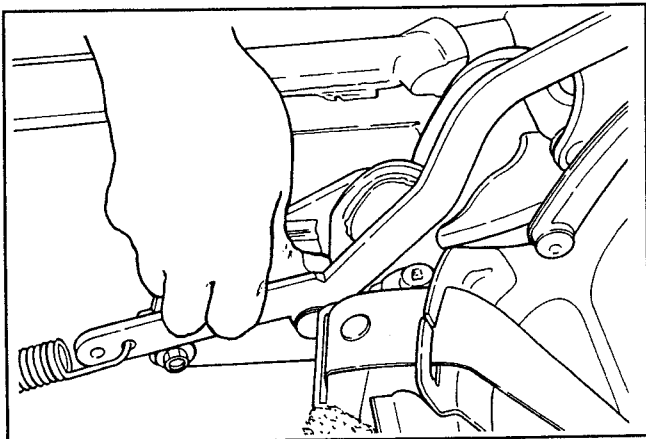

Figure 37. Push Down on Balance Link
2. Loosen the two bolts. Push down on the link to take up slack (Fig. 37).